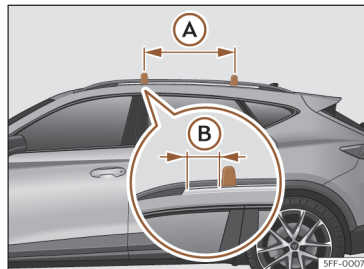

Fig. 125 Attachment points for the roof railings for the roof carrier system.
The crossbars are assembled on the roof railings. The distance between crossbars >>> **Fig. 125** (A) should be between 70 and 90 cm and the distance between the crossbars and the brackets of the roof railings (B) must be 15 cm.